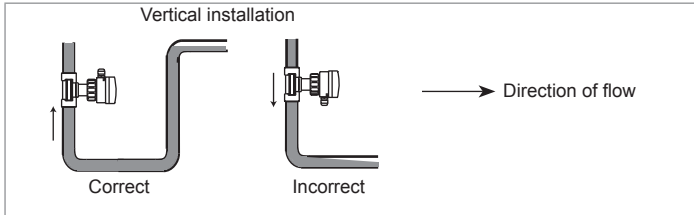

Figure 7: Filling the pipe
- Make certain the pipe is always filled (see Figure 7).
- Make certain the liquid is flowing upward (see Figure 7).